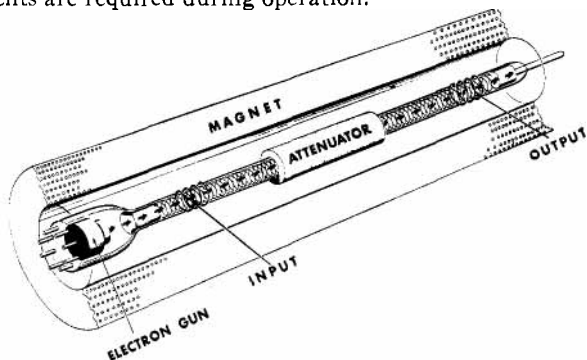

Figure 1. Construction of the *-hp-* Traveling Wave Tube showing input and output coupling helices and attenuator helix midway in the tube.
-hp- engineers developed a simple new broad band coupling method employing helices. (Figure 1.) There is no mechanical connection to the inner helix, yet full energy transfer is effected. The difficulties in previous experimental amplifiers using multi-element networks, taper or vacuum leads have been overcome with matching helical couplers at both input and output ends of the tube. A similar helix is used for a coupled attenuator which surrounds the central portion of the tube, preventing amplified energy from causing regeneration.